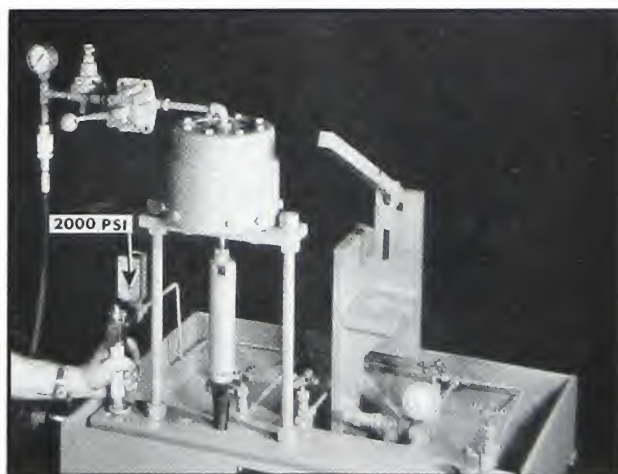

Fig. 6-26. Checking injector back pressure
3. With clean fuel being introduced through cup spray holes, the injector check valve should not leak at 2000 psi. Leaks can be detected at fuel inlet connection hole. Fig. 6-26.